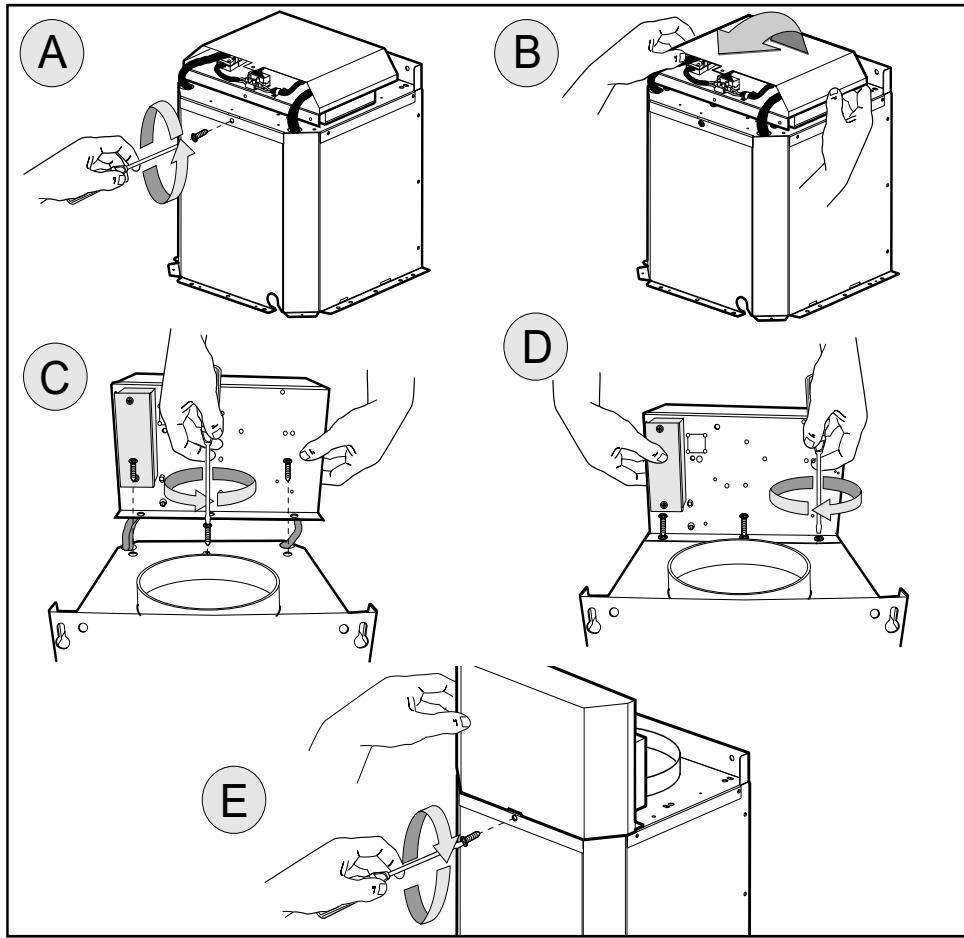

Fig.1
The appliance has been designed for use in the ducting version (air exhaust to the outside – Fig.1).
- **WARNING - TO REDUCE THE RISK OF FIRE, ELECTRIC SHOCK, OR INJURY TO PERSONS, OBSERVE THE FOLLOWING:** Before making electrical connections to power supply, the electrical box must be secured in place as indicated in fig.1
**Before installing the appliance fix the electrical box as indicated in fig.1**